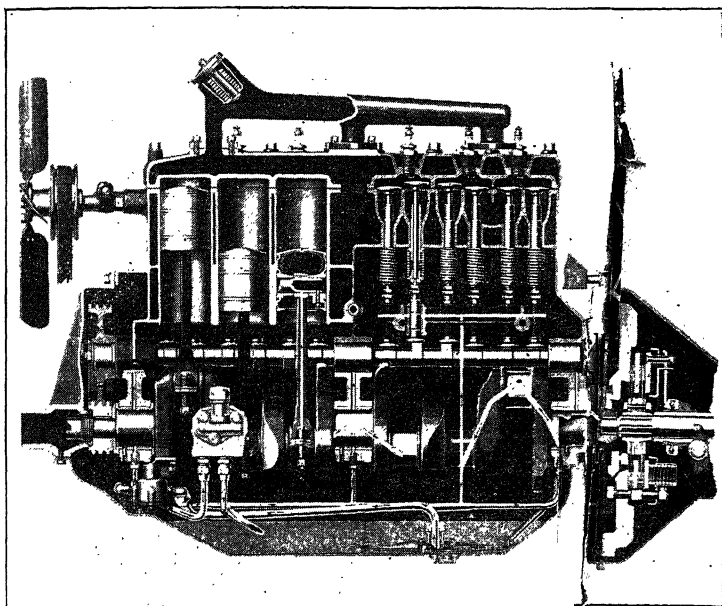
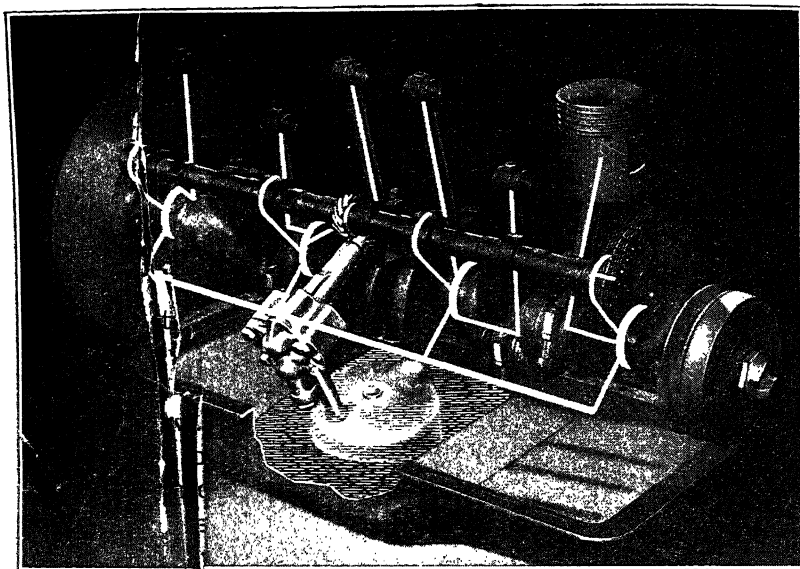
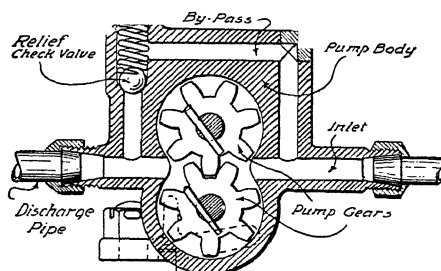
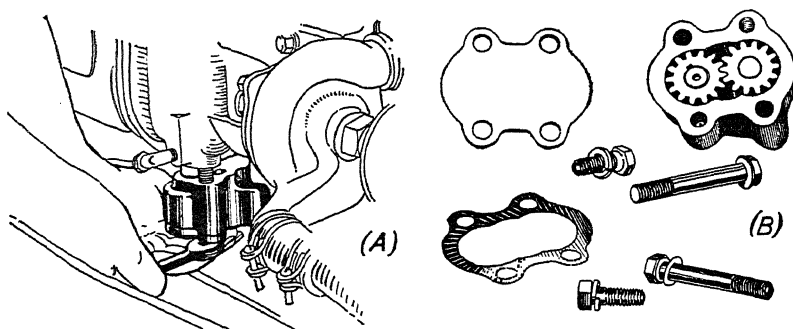

Fig. 14. Cutaway View of Engine in Which Full-Force-Feed System Is Employed
Fig. 13. The 1937 Oldsmobile Six Pressure Lubricating System
Fig. 20. Gear-Type Oil Pump in Section, Showing Principles of Operation
Fig. 21. A—Removing a Gear Type Oil Pump; B—The Gear Type Pump Disassembled
The oil pump shown at *K* in Fig. 13 is a gear-type pump similar to that shown in Fig. 20. It is driven from the cam shaft by means of gears. The pair of gears at *K* pick up the oil from the oil sump as shown by the arrows. Leaving the oil pump, the oil flows upward through the oil tube. The arrows indicate this path. A small portion of the oil will go over to the timing case to lubricate the timing chain and front-end bearings. The main supply will travel upward and be conducted by means of tubes to the main engine bearings. Figs. 14 and 15 illustrate
*Full-Force Feed Lubrication.* The system illustrated in Fig. 13 is representative of most oiling systems. Fig. 14 shows a system of the type which is termed full-force feed. In the case of Fig. 13, the piston pin is not oiled under pressure. The piston pins in Fig. 14 are lubricated under pressure, from the connecting-rod bearings. It will be noted that rod No. 3, which
is shown in section, has a white line running from the connecting-rod bearing to the piston pin. A very small arrow indicates the flow of oil along this white line. Oil reaching the piston pin lubricates the piston pin and then flows out along the pin on to the cylinder wall, from which point it lubricates the cylinder wall, piston surfaces, and piston rings. The flow of oil in Fig. 14 is indicated by the white lines and arrows.
*Force-Feed or Pressure Lubrication.* The system illustrated in Fig. 14 and also in Fig. 15 is of the type termed force-feed or pressure. The main difference between these two systems and the one shown in Fig. 13 is the lack of forced lubrication to the piston pin. Another point in which there is variation is force-feed lubrication to the cam-shaft bearings. Fig. 15 shows forced lubrication to these points through drill holes from the main engine bearings. This feature is not always incorporated in force-feed systems. It is incorporated in the one shown in Fig. 13.
acceptance is the gear-type pump. Figs. 20 and 21 illustrate several of these. The principles of the gear-type pump are illustrated most clearly in Fig. 20. It will be noted that oil entering from the inlet tube finds its way round the gears, being carried between the gear teeth and the pump wall. Arriving at the opposite side from which it enters, it is discharged through the discharge pipe. It is prevented from returning through the inlet pipe by the contact of the gear teeth at the center of the pump. An overload of oil will find its way through the relief
check valve and the by-pass, back through the body of the pump into the inlet tube. The pressure within the oiling system is thus controlled by the spring pressure in the relief valve. The oil pump, shown in Fig. 21, operates on the same principle as the one shown in Fig. 20. The throttle control is used in order to increase the amount of oil going to the system under high speeds.